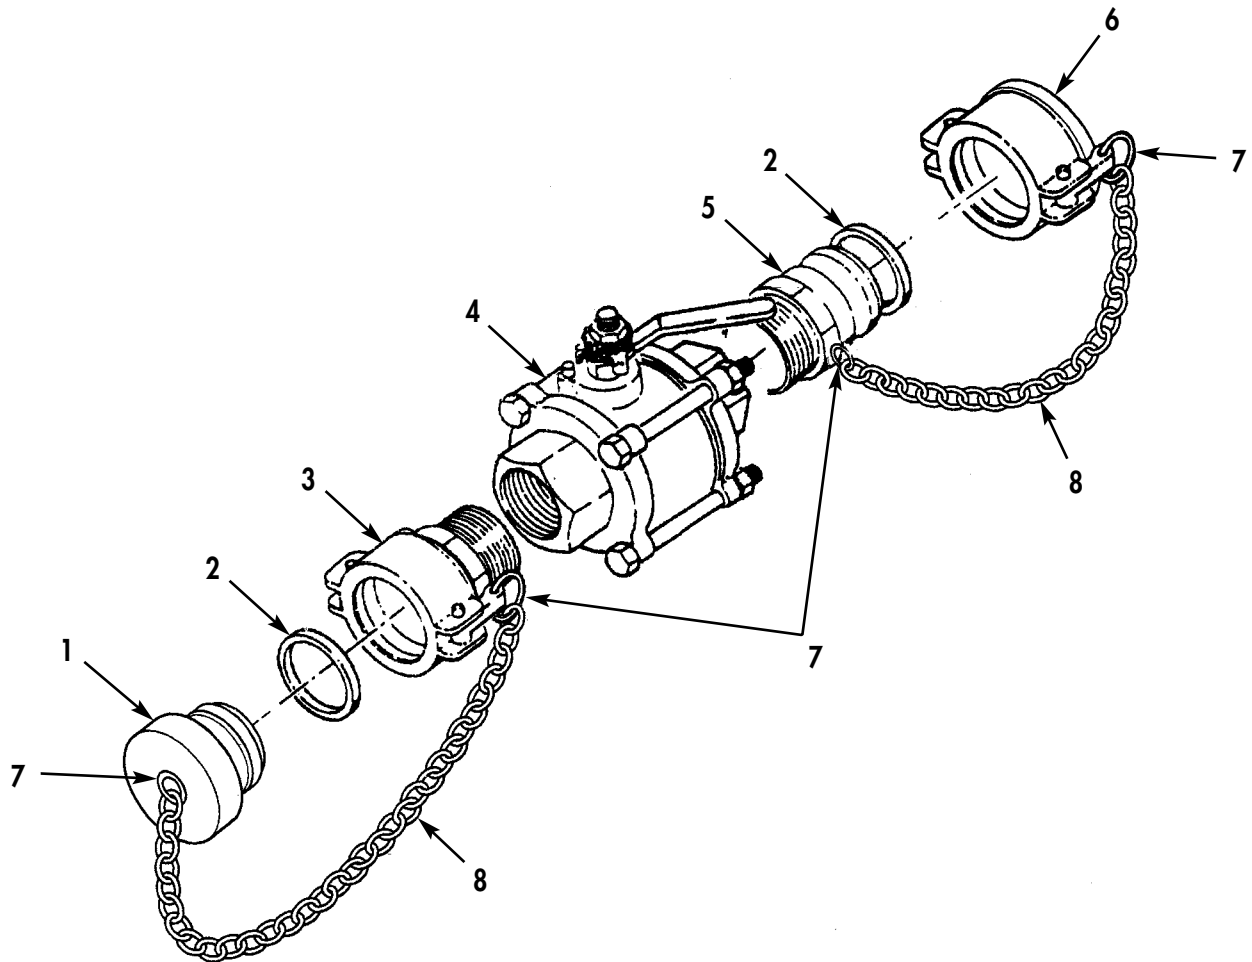

Figure 3. Ball Valve Coupling.
1. Apply sealing compound to male pipe threads on coupling halves (Figure 3, Item 5) and (Figure 3, Item 3), and install coupling halves (Figure 3, Item 5) and (Figure 3, Item 3) on ball valve (Figure 3, Item 4). Remove any excess sealing compound with cloth.
2. Install two chains (Figure 3, Item 8) on coupling halves (Figure 3, Item 5) and (Figure 3, Item 3), dust cap (Figure 3, Item 6), and plug (Figure 3, Item 1) with four retaining rings (Figure 3, Item 7).
3. Install dust cap (Figure 3, Item 6) and new gasket (Figure 3, Item 2) on coupling half (Figure 3, Item 5), and install plug (Figure 3, Item 1) and new gasket (Figure 3, Item 2) on coupling half (Figure 3, Item 3).
4. Connect ball valve (Figure 3, Item 4) to FAWPSS and check for leaks. Refer to WP 0005.